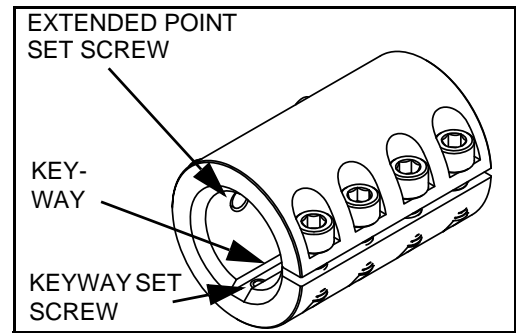

Figure 4.20
2. Before installing the coupler, check that the snap ring is not blocking the coupler keyway (Figure 4.20). If necessary, rotate the snap ring to free the coupler from obstruction.
6. Secure the coupler by tightening the 2 inner and 2 outer bolts to 170 in-lb. Tighten the 2 keyway set screws on the coupler (Figure 4.20). Tighten the 2 extended point set screws into the cross-holes of the gearbox shafts. These bolts and screws can be accessed by forcing the rubber seal up and down.